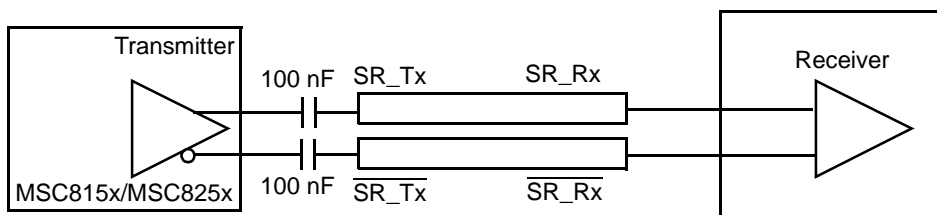

Figure 17. PCI Express SerDes Transmitter Connection
- PCI Express connection. Place a 0.1 μF capacitor on the transmitter side near the DSP as shown in **Figure 17**.
- For PCI Express, blocking capacitors should be placed on the MSC815x/MSC825x transmitter side as shown in Figure 17. In PCI Express blocking capacitors should be 100 nf.